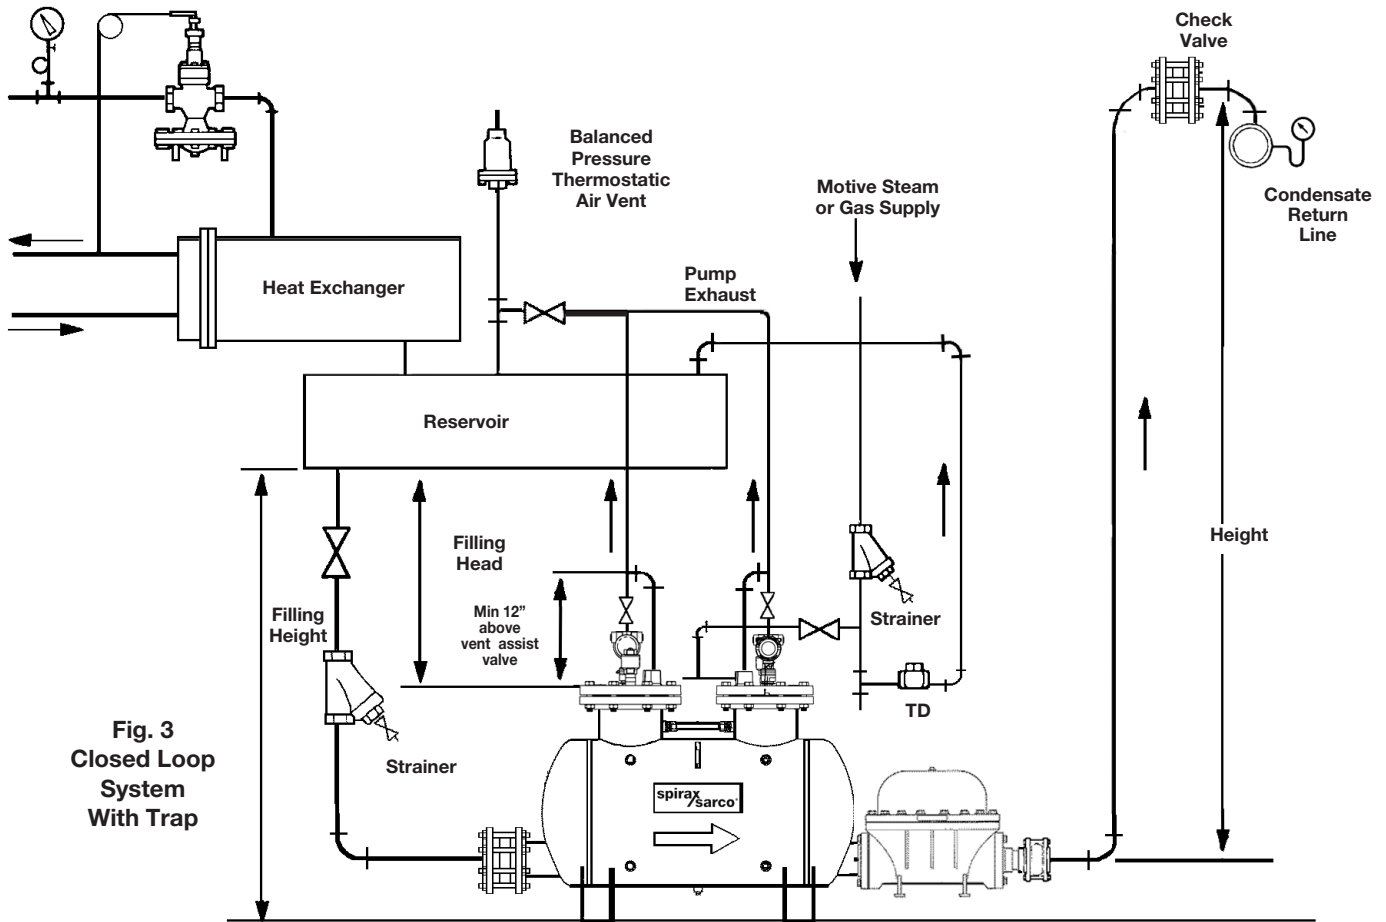

Fig. 3
Installation — Closed Loop Systems (Figs. 3)
1. Install the pump physically below the equipment being drained with the exhaust connection vertically upwards. Pump should be installed with the recommended filling head (the vertical distance between the top of the pump and the bottom of the reservoir) as shown in Fig. 3. For other filling head variations, see Capacity Table on TI-5-202-US.
2. To prevent equipment flooding during the pump discharge stroke, a reservoir pipe should be installed in a horizontal plane ahead of the pump as shown in Fig. 3. For proper reservoir sizing, refer to "Inlet Reservoir Piping" table 2. All inlet line fittings must be fully ported. If desired, overflow piping can be installed using a properly sized float and thermostatic trap. The trap inlet should be located at the maximum allowable water level, at or near the top of the reservoir, and it should discharge to a suitable drain.
6. If at any time the backpressure against the pump is less than the pressure in the equipment being drained, a properly sized float and thermostatic trap must be installed between the pump and discharge check valve as shown in Figure 3.